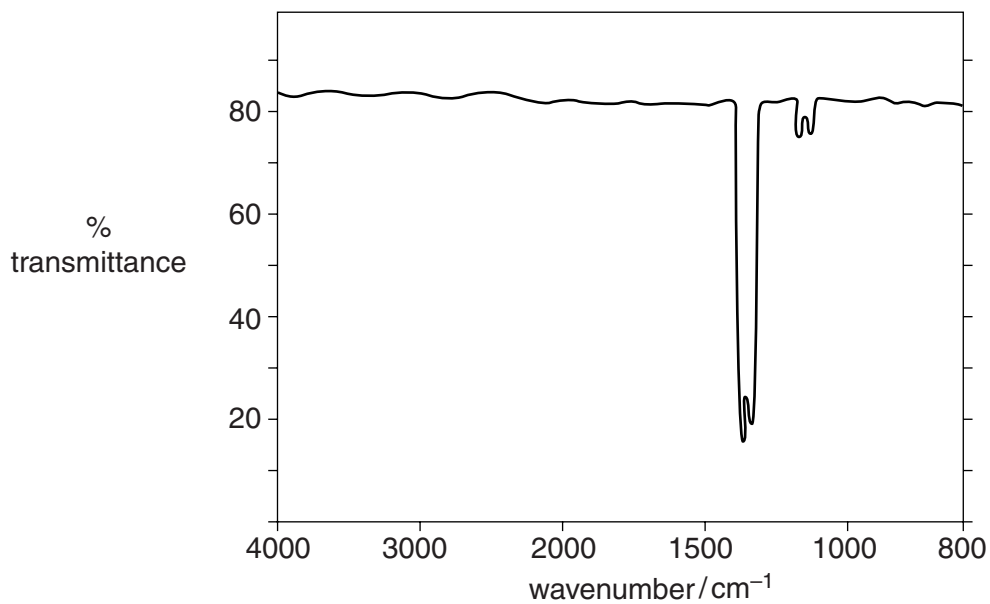

Fig. 1.4
- (h) The plane that collected samples of volcanic ash also measured the concentration of sulfur dioxide present. Generally the denser the ash cloud, the more sulfur dioxide is present. One method of measuring sulfur dioxide concentration is by using the infrared absorption spectrum of sulfur dioxide, Fig. 1.4.